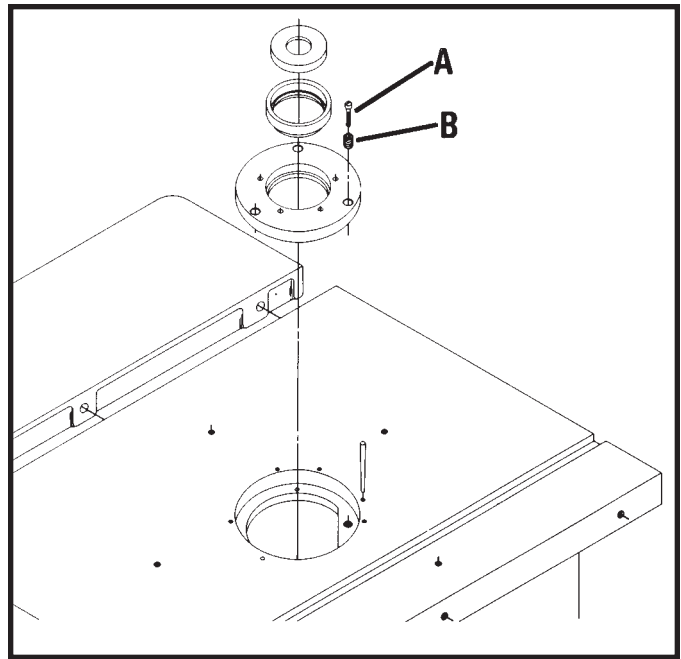

Fig. 34
Three table inserts are provided for various size cutters, as shown in Fig. 34. The large insert is adjustable and should be set flush with the table as follows:
1. Remove the three slotted head screws (A) Fig. 34.
2. Using a screwdriver, turn the three adjusting screws (B) Fig. 34, until insert is flush with table. Then replace the slotted head screws (A).